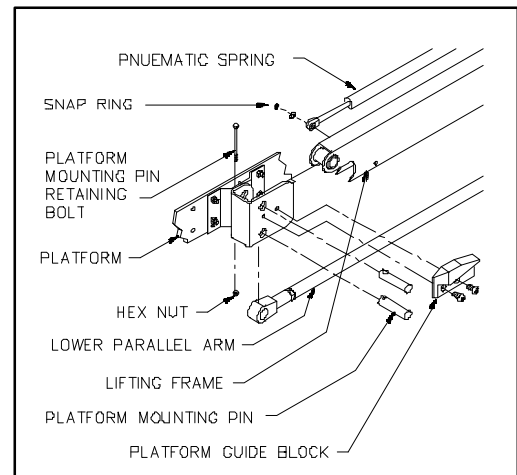

FIGURE 4-4: DISCONNECT BRIDGE-PLATE
3. Refer to **Figure 4-4**. Remove the snap-ring fastening the bridge plate pneumatic spring to the lifting frame. Fold the bridgeplate over onto the lift platform, rotate the bridgeplate pneumatic springs parallel to the platform, and secure the bridge plate and pneumatic springs to the platform with a small rope or strap.